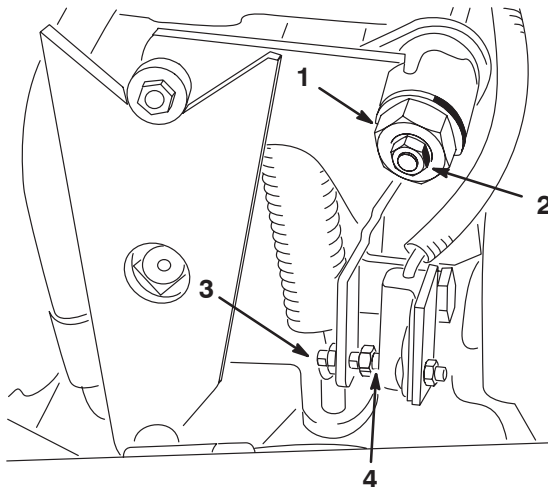

Figure 24
- Loosen the locknut on the traction adjustment cam (Fig. 24).
- Start the engine and rotate the cam hex (Fig. 24) in both directions to determine the mid position of the neutral span.
- Adjust the screw until the air gap is .060 inches \pm .030 (Fig. 24).